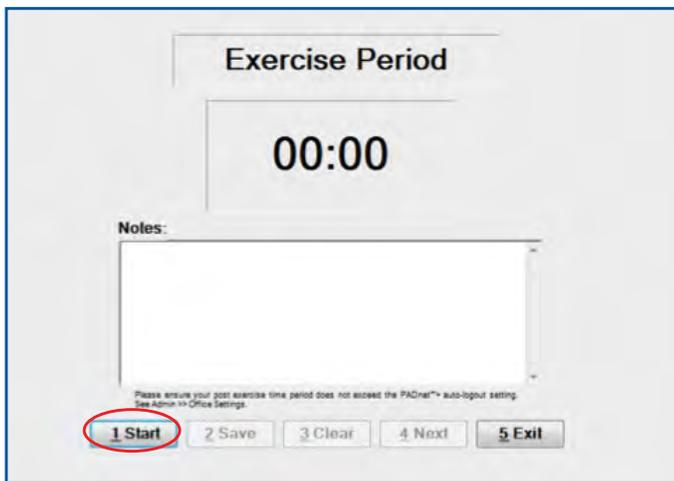

FIGURE 1.30 - Exercise Period - “Start” Button and Notes Field
39. To start the exercise timer, click “Start”, or press 1 (Figure 1.30).